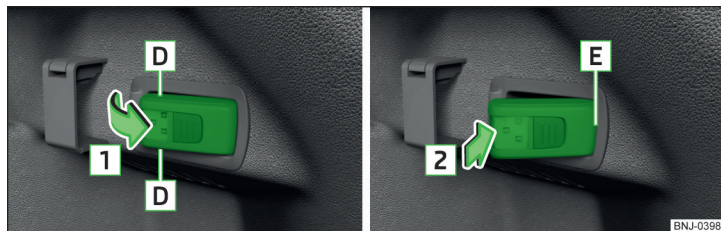

Fig. 117 Removing light/inserting light
- » To **remove**, hold the light in the area and swivel in the direction of arrow » Fig. 117.
- » To **insert**, first of all insert the light with the rear part into the mount » Fig. 117 and then push the light in the direction of arrow until it audibly clicks into place.